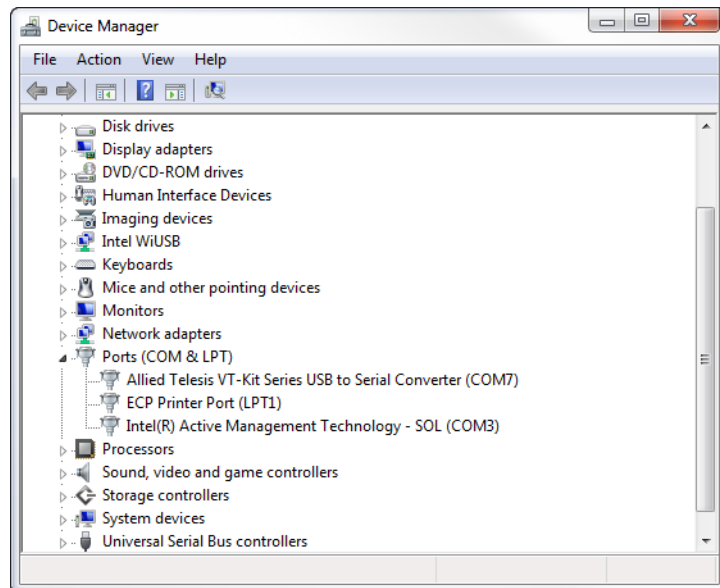

Figure 13. Device Manager
2. Open Device Manager in Control Panel. See Figure 13.